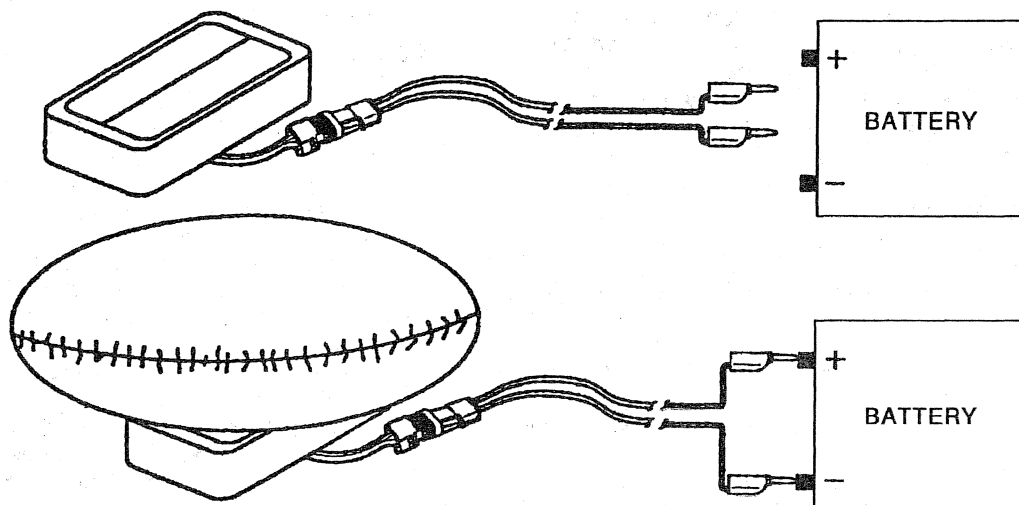

Figure 20—Connecting to a Power Source
18. Connect the SIR deployment harness wires to the power source to immediately deploy the inflator module. Recommended application: 12 volts minimum, 2 amps minimum. A vehicle battery is suggested (Figure 20).